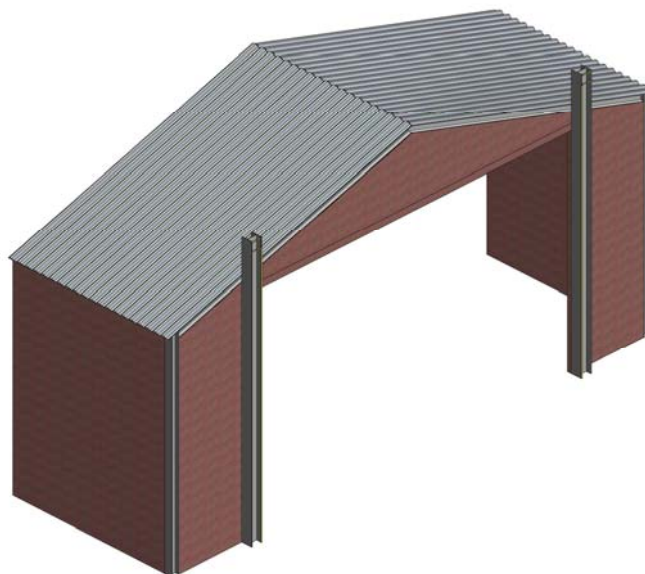

Figure 15b
16.3 Cantilever tracking extensions above the building (Figure 15b).